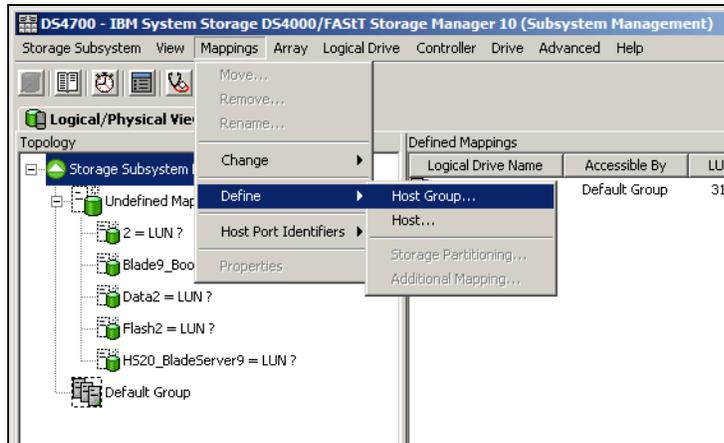

Figure 10-19 Define host group
- a. Select **Mappings** → **Define Host Group** (Figure 10-19).